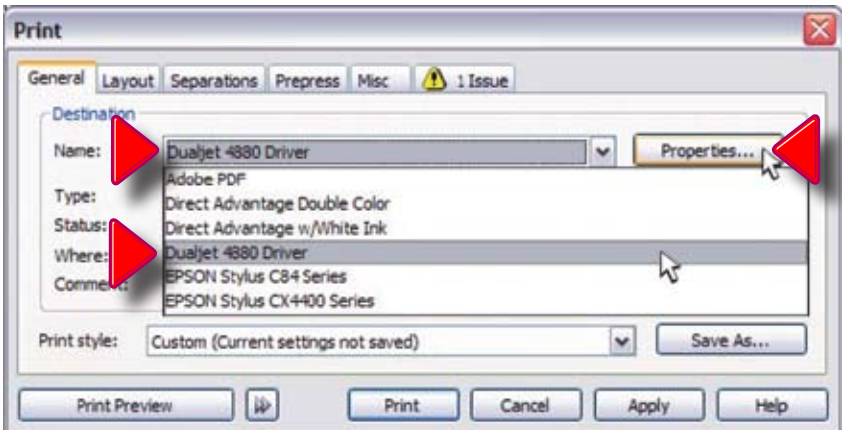

Figure 2
- 2) Select the **DualJet 4880 Driver**. Use the “Properties” Button (Fig. 2) to access “DualJet 4880 Driver Properties”. (Fig. 3, Page 32)
- 3) In **Figure 3 (a & b)**, you must set preferences according to the printing you propose to do. The **“ChromaBlast 4880 Driver”** is used only on cotton fabric. It cannot be used on a hard, non-porous surface, so the **Substrate** may decide which ink you use. You must also set the **Size** of image, **Number of Copies**, whether **Bitmap** or **Vector**, **Print Quality**, and **Density**. Once this is done, click **“Apply”** and then **“OK”** to return to the **“Print” Window (Fig. 2)**. Here, click on **“Apply”**, and then **“Print”**.